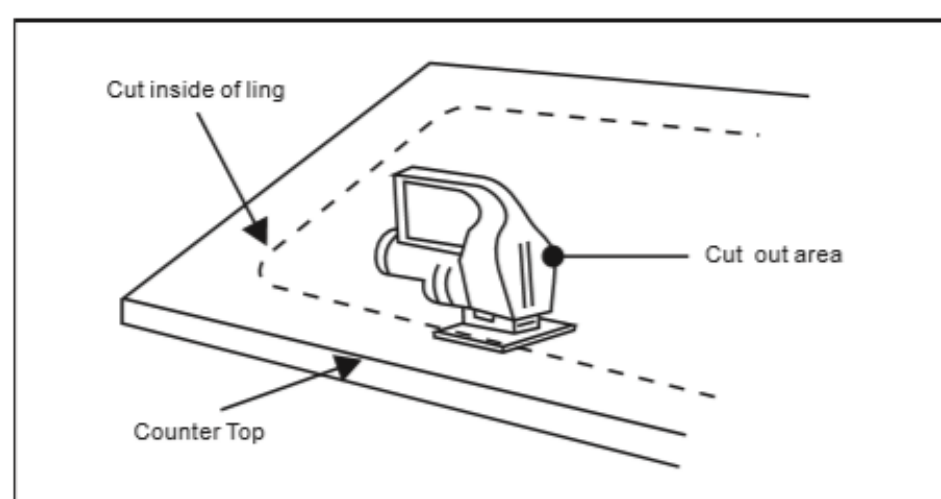

FIGURE 2
4.Trace the outline of the template and cut counter-top according to templated outline suing appropriate cutting tools. Template is for guide only. Use physical sink to ensure accurate cutout opening .(FIGURE 2)